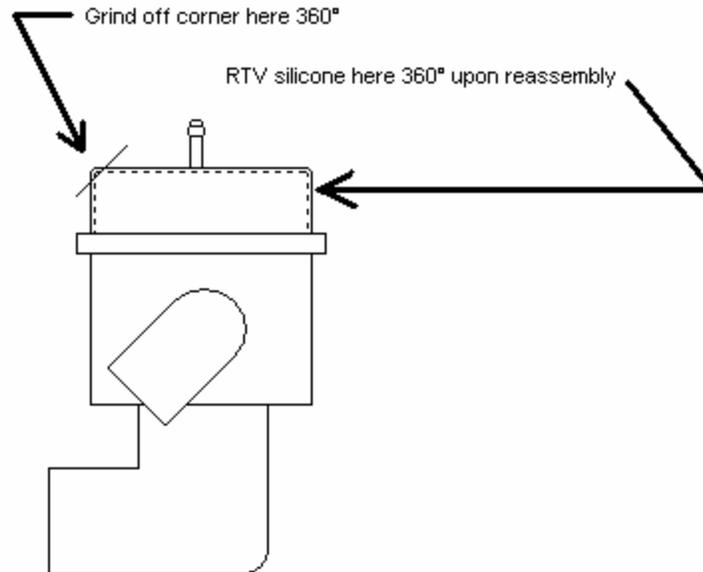

Figure 1
Plug the hose openings with some rags to prevent grinding dust from getting into the valve. Using your grinder of choice or belt sander, grind the corner on the top of the valve down (see figure 1). The idea is to grind away the corner material so the top will break off easy.
- Apply a 1/8" bead of silicone to the outside circumference of the valve (see figure 1), put the spring in place on top the diaphragm (**DO NOT FORGET TO INSTALL THE SPRING!!!**) and place the aluminum cap over the spring.